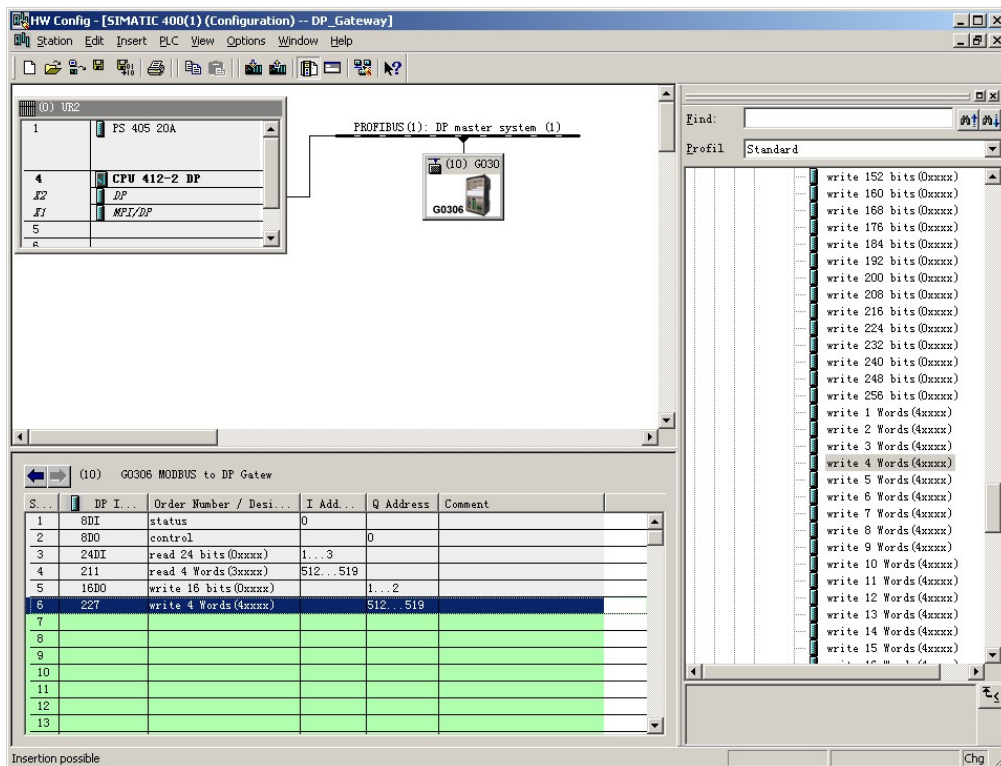

Figure 25 Add "write 16 bits(0xxxx)" module
**a) Add "write 4 Words(4xxxx)" Module, as shown in Figure 25:**